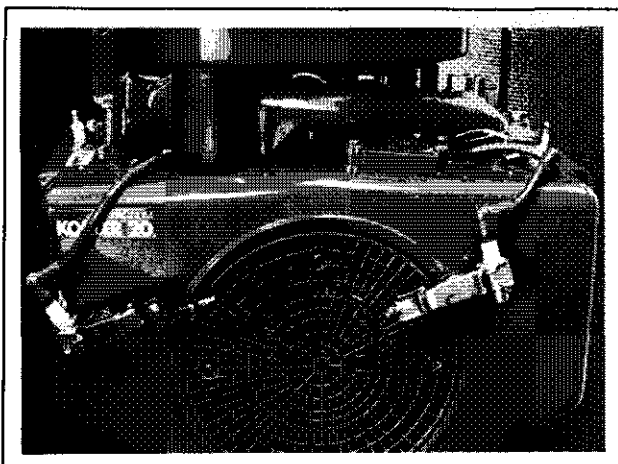

Figure 8-2. Ignition System Tester.
3. Check ignition module using test plugs (refer to the "Special Tools" section and Figure 8-2). <ul style="list-style-type: none"> a. Remove the high-tension leads from the engine spark plugs, and connect them to the test plugs. NOTE: To maintain engine speeds normally obtained during cranking, do not remove the engine spark plugs. <ul style="list-style-type: none"> b. Make sure the engine ignition switch (kill switch) and/or key switch are in the "run" position. c. Crank the engine and observe the test plugs. Visible and audible sparks should be produced. 	If visible and audible sparks ARE produced, the ignition module is OK. If visible and audible sparks ARE NOT produced: <ul style="list-style-type: none"> a. Make sure engine ignition switch and/or key switch are in the "run" position. b. Check wires and terminals of ignition module and other components for accidental grounding and/or damaged insulation. c. If wires and terminals are OK, the ignition module is probably faulty and should be replaced. Test module further using an ohmmeter (Test 4).